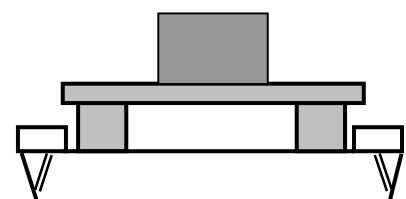

Figure 3
- b) Place the load on an intermediate platform which is supported on spacers to distribute the load to the outer edges (Fig. 3).